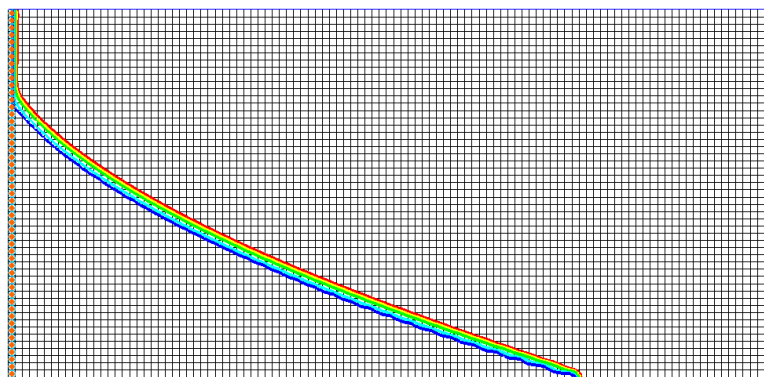

Figure 7 Time step 12 (after 55 minutes)
4. In the *Time Steps* window, select time step 12 (Figure 7).